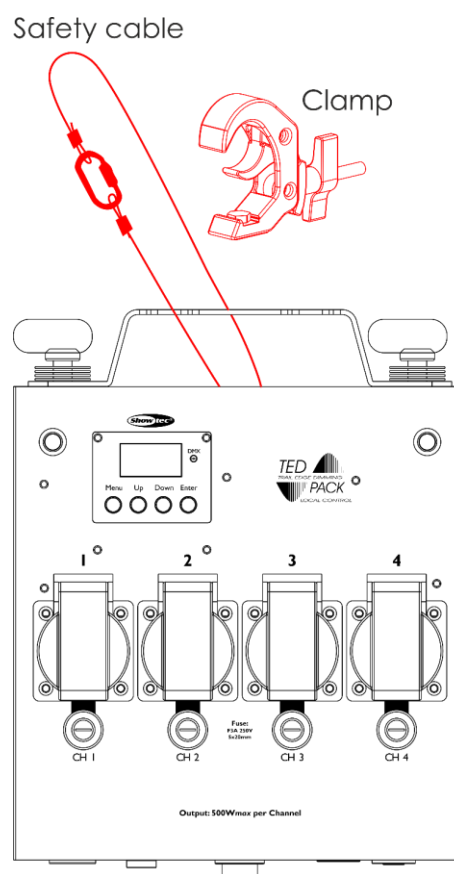

Fig. 09
- 02) Install the clamp, as shown in Fig. 09. Make sure that you use a clamp suitable for attaching the device to a truss.
- 04) Secure the device with a secondary suspension, for example a safety cable. Make sure that the secondary suspension can hold 10 times the weight of the device. If possible, the secondary suspension should be attached to a supporting structure independent of the primary suspension. Put the safety cable through the **safety eye (17)**, as shown in Fig. 09.